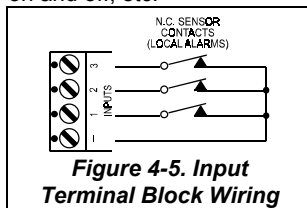

Figure 4-5. Input Terminal Block Wiring
- D. If you wish to report up to 3 kinds of local alarms to the head-end computer, connect normally closed (N.C.) sensor contacts across the alarm inputs and the ground (-) terminal, as shown in Fig. 4-5.